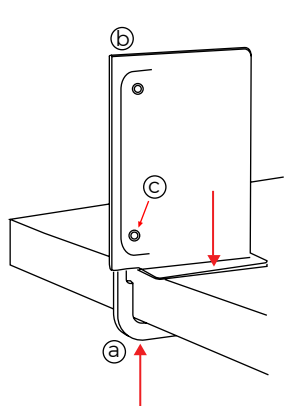

Figure 2
- Place Bracket Housing (b) on the edge of table. Push L-Bracket (a) up against the bottom of the table as shown in Figure 2. While clamping the Bracket Housing (b) and L-Bracket (a) against table, tighten the bottom screw (c).